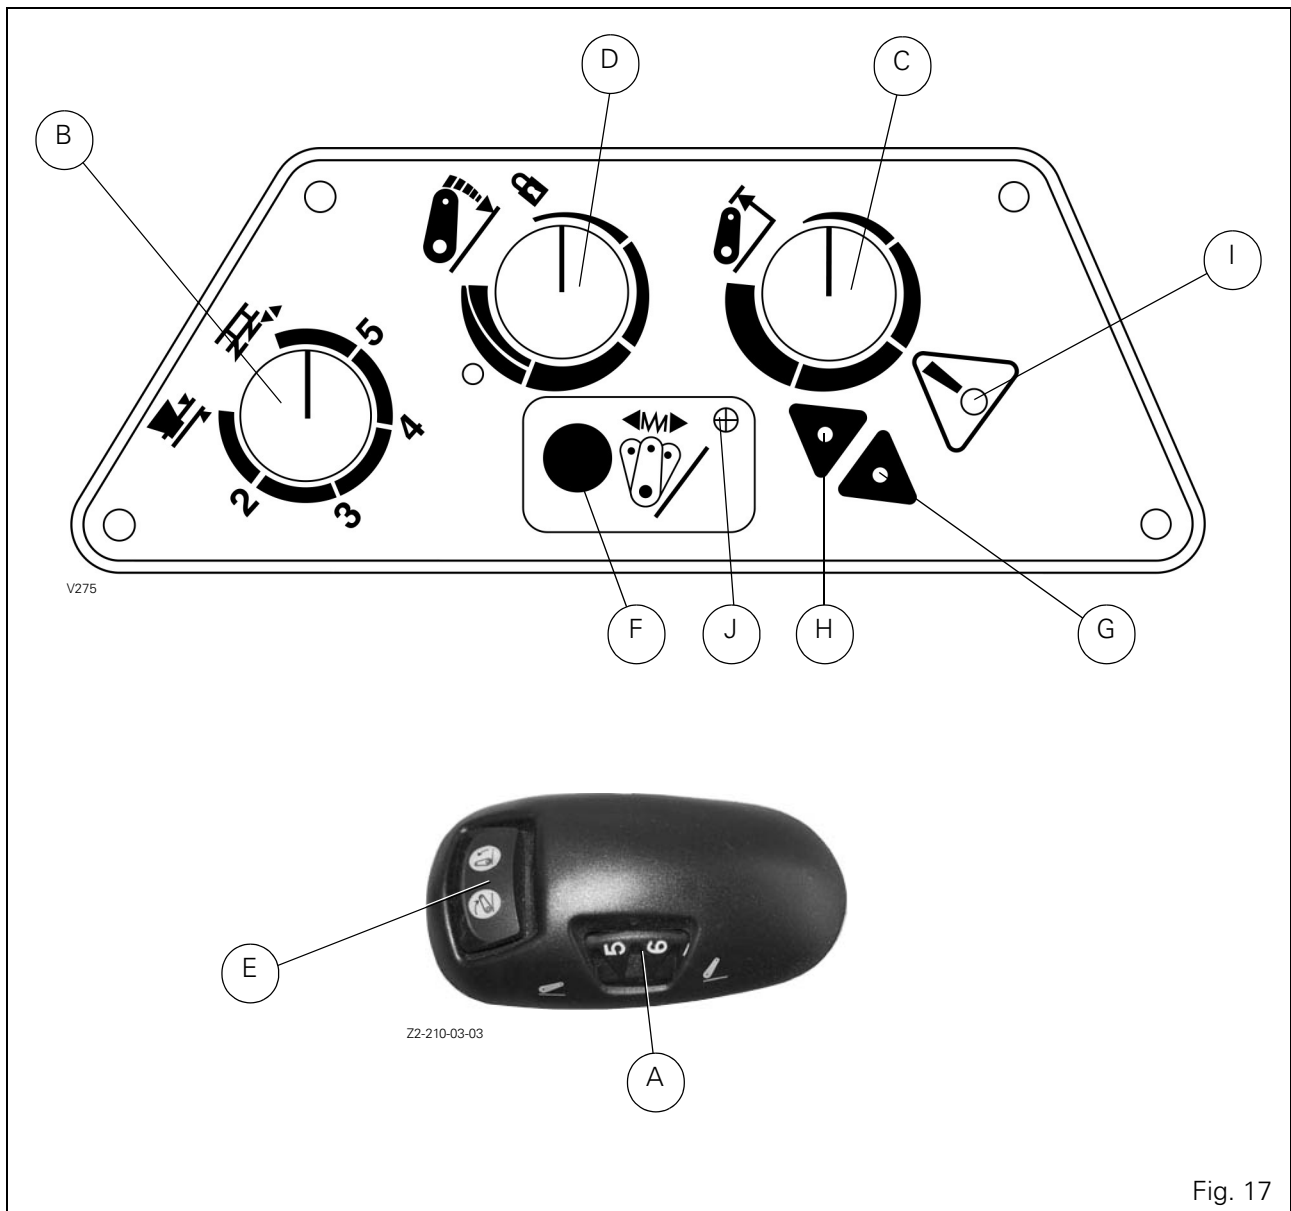

Fig. 17
- Select the minimum position with the button B, Fig. 17.